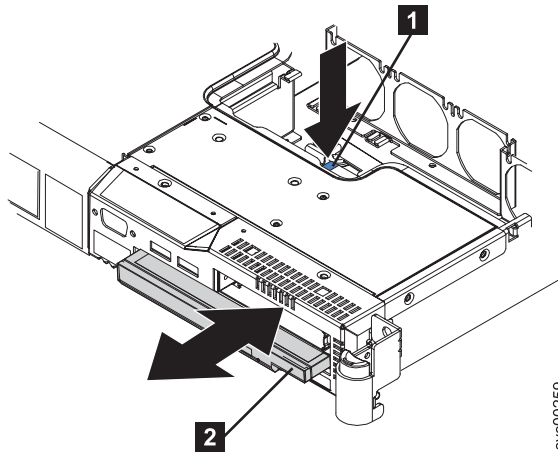

Figure 151. Releasing and sliding out the dummy CD/DVD drive
3. Release the dummy CD/DVD drive **2** by pressing the release button **1** and sliding the drive out approximately 2 cm (1 in), as shown in Figure 151 on page 168